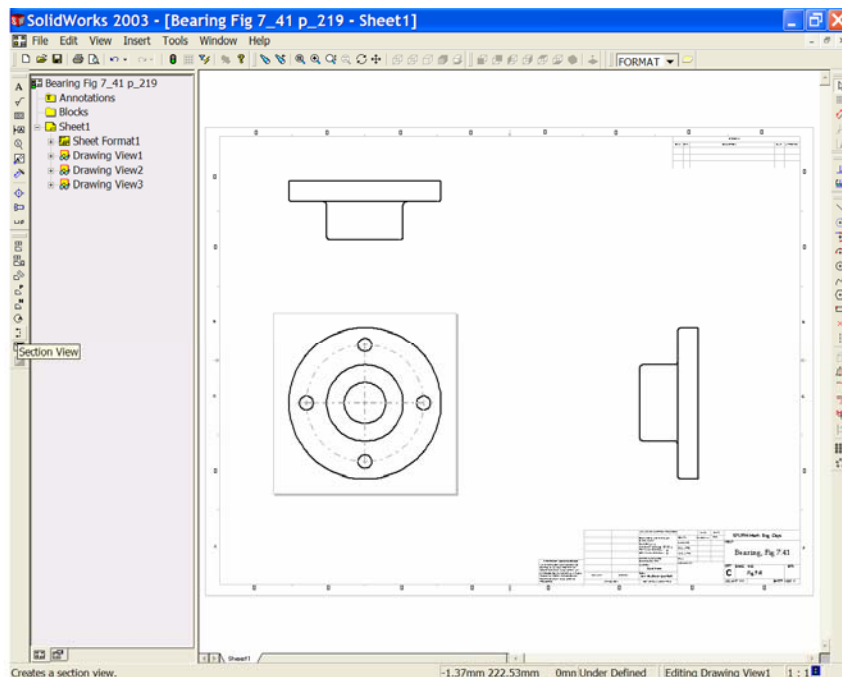

Figure 6
10. Insert the three orthographic views with tangent edges removed. Position the views carefully within the border. You will have to modify the DWG. NO. (Use 'Properties'). See Figure 6.